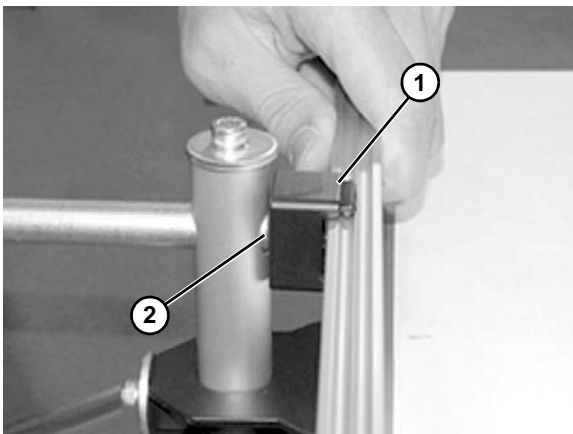

Figure 34
5. Reassemble clip (**Figure 34, item 1**) and attach to shaft (**Figure 34, item 2**). Tighten screw (**Figure 31, item 1**) on end of shaft.